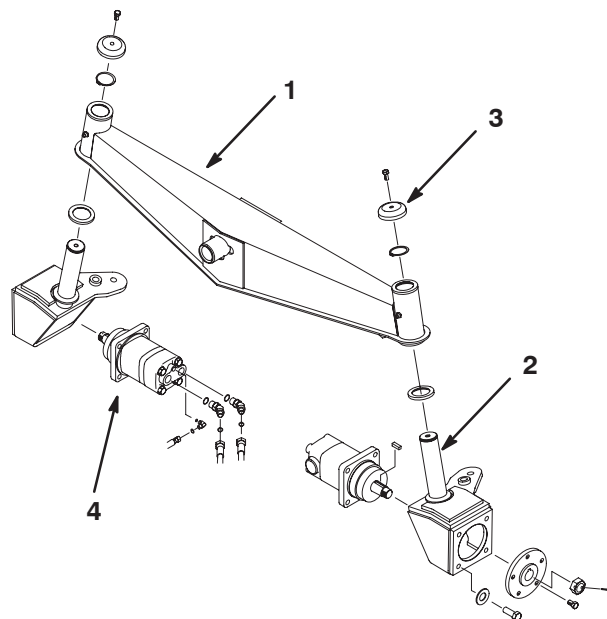

Figure 2
2. Slide a thrust washer over the shaft on each of the wheel motor housings (Fig. 2).
3. Slide the left and right wheel motor housings onto the axle and secure with retaining rings, spindle caps, and 3/8–16 x 3/4" lg. flange bolts (Fig. 2).
4. Reinstall the steering cylinders. **Do not re-use the washers when installing the steering cylinders to the wheel motor housings.** Adjust the ball joint on the steering cylinder so that the steering arms contact the stops on the axle in either direction (Fig. 2).